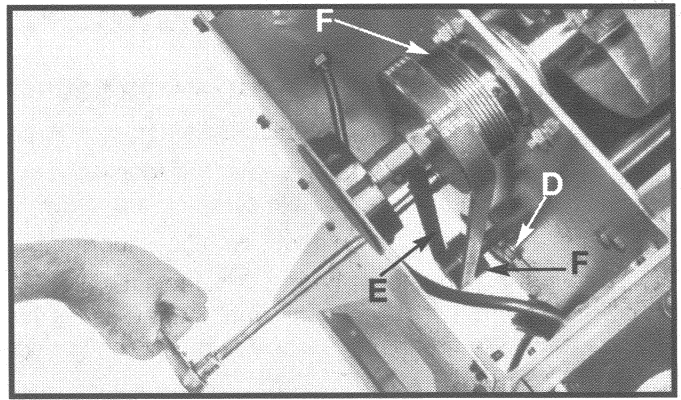
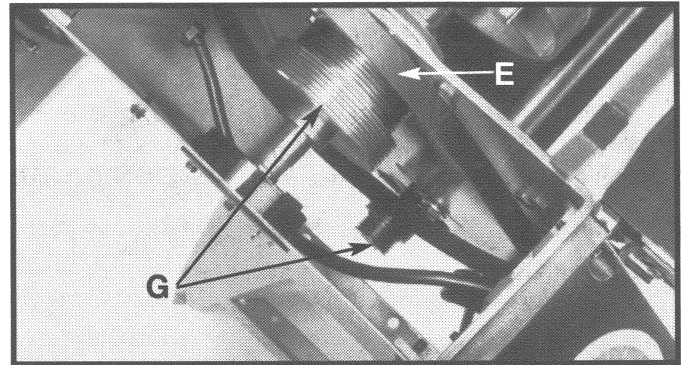

Fig. 26
Fig. 27
4. Use a 9/16" socket with an extension (not supplied). Place it in one of the two holes where the hole plugs were removed. Loosen one hex bolt, then the other to relieve tension on the motor. (One is shown at (D) Fig. 26). Apply upward pressure on the motor (located under the machine) to relieve tension on the belt. Replace or change the belt positions on the pulleys. **IMPORTANT:** When the belt is on the inner pulleys (F) Fig. 26, the sanding drum speed is 3300 SFM. When the belt is positioned on the outer pulleys (G) Fig. 27, drum speed is 2210 SFM. **NOTE:** Position the poly-v drive belt on the pulleys correctly to provide maximum performance with minimal belt wear.